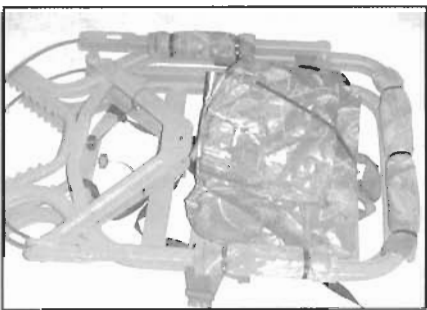

Fig. 27
B. Take the Bullet or Broadhead Backpacker seat and lay it flat on top of the platform as shown in **Figure 27**.